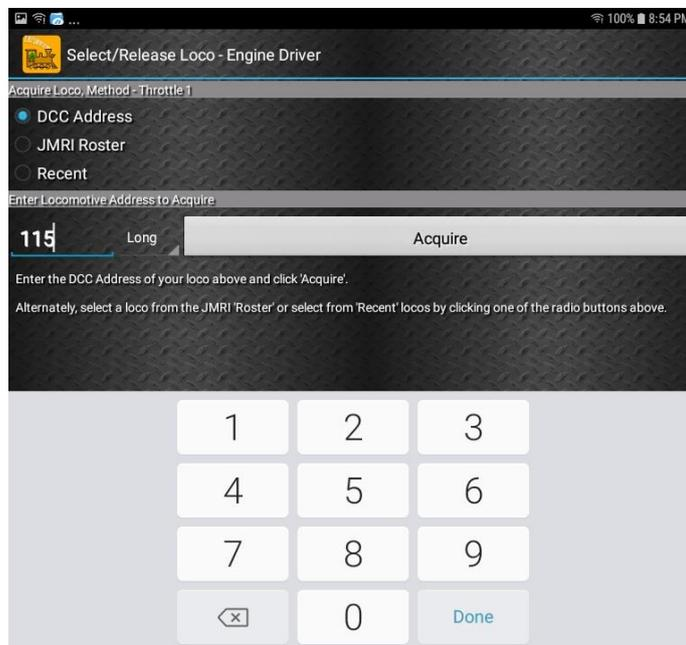

Figure 19 Selecting a locomotive by typing its DCC Address
- (12)The Throttle screen should then appear, ready to select a loco and drive. Tap the Select button, check the “DCC Address” option and type the address of your locomotive either short or long as in Figure 19. Then tap Acquire.